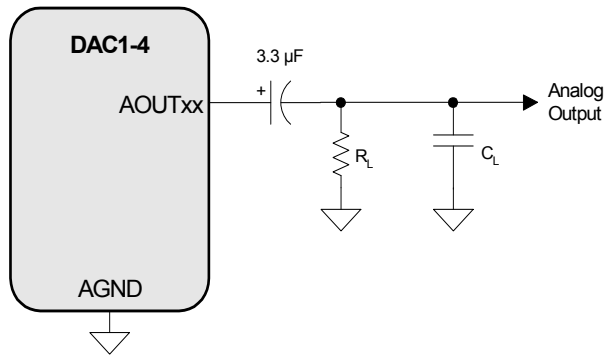

Figure 3. Output Test Circuit for Maximum Load
15. Guaranteed by design. See Figure 3. R_L and C_L reflect the recommended minimum resistance and maximum capacitance required for the internal op-amp's stability and signal integrity. In this circuit topology, C_L will effectively move the dominant pole of the two-pole amp in the output stage. Increasing this value beyond the recommended 100 pF can cause the internal op-amp to become unstable. See "External Filters" on page 50 for a recommended output filter.